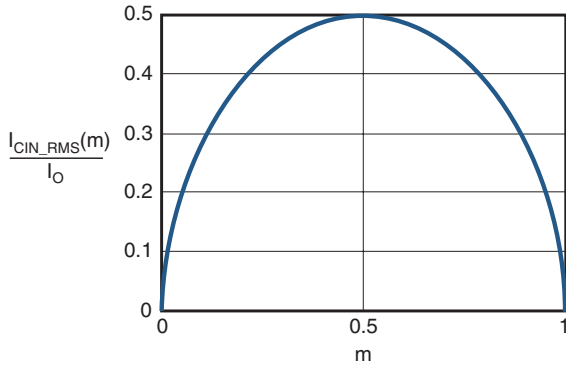

Figure 2.  $I_{CIN}$  vs. Voltage Conversion Ratio
The relationship between the input capacitor RMS current and voltage conversion ratio is calculated and shown in Figure 2 on the next page. It can be seen that when  $V_O$  is half of  $V_{IN}$ ,  $C_{IN}$  is under the worst current stress. The worst current stress on  $C_{IN}$  is  $0.5 \times I_O$ .
3. Adding a resistor RG between LDRV and the base of the transistor (gate of MOSFET), which can structure a RC filter with the capacitor of Base-Emitter to reduce the noise (Figure 2). As the increasing of RG value, the noise getting smaller. Considering the power dissipation of the RG, its value is often between 10Ω and 100Ω.